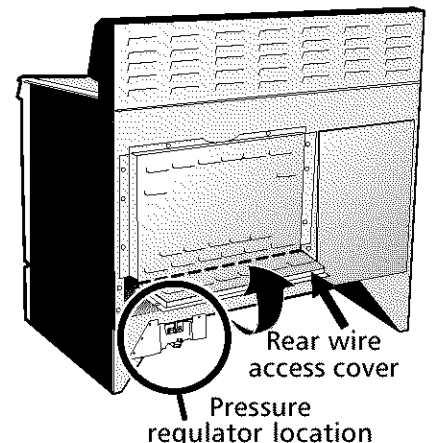

Figure 2
1. Remove the 3 screws at the lower end of the rear wire cover, then bend the lower end of the rear wire cover (access cover) upward to expose range terminal connection block (see Figure 2).
- Remove the 3 screws at the lower end of the rear wire cover, then raise the lower end of the rear wire cover (access cover) upward to expose range terminal connection block (see figure 2).
When shipped from the factory, this unit is designed to operate on 4" water column (1.0 kPa) Natural gas manifold pressure. A convertible pressure regulator (see figure 2) is connected to the range manifold and **MUST** be connected in series with the gas supply line. To access the regulator, remove the drawer.